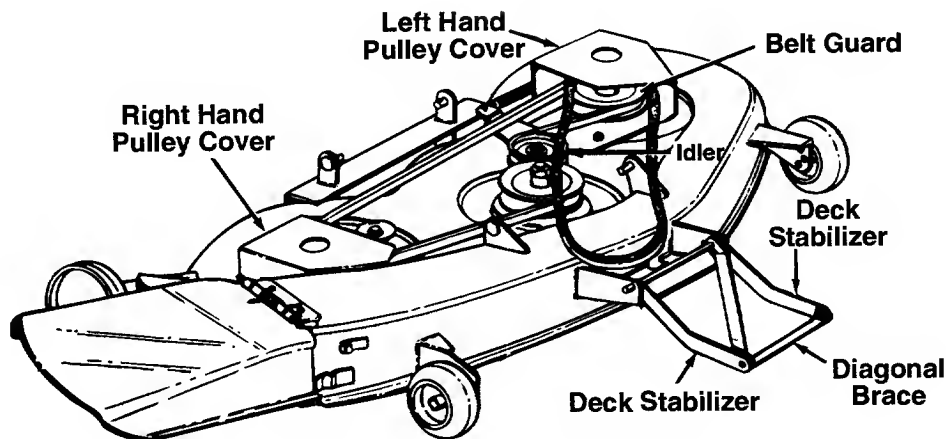

FIGURE 27.
### DECK BELTS (See figure 27)
2. Remove the left hand pulley cover by unhooking the spring and removing five self-tapping screws. See figure 27.